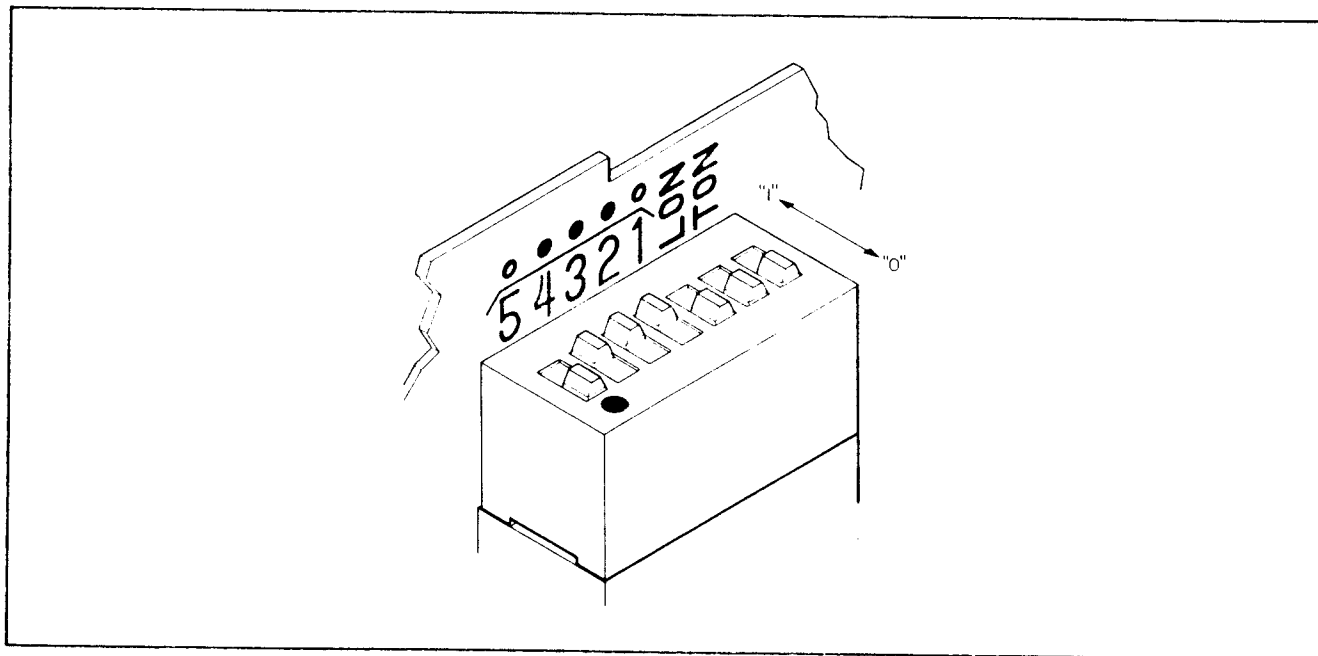

Figure 2-2. The HP-IB Address Switch Shown as Set by the Factory. The Address Shown is 01110 in Binary With Both Talk Only and Listen Only Off
In the Measuring Receiver, the HP-IB talk and listen addresses are selectable by an internal switch (Figure 2-2). The following procedure explains setting of the switches. Refer to Table 2-2 for a listing of the talk and listen addresses. The address is factory set for a Talk address of "N" and a listen address of "." (period). (In binary, this is 01110; in decimal it is 14.) To change the HP-IB address, the top cover of the Measuring Receiver must be removed.
5. Use a pencil to set the switches to the desired HP-IB address and Talk Only (TON) or Listen Only (LON) condition. The switch is illustrated in Figure 2-2. Facing the board, the left hand switch (marked with a "5") is the most significant address bit (A5 in Table 2-2). Setting a switch toward the printed circuit board places it in its "1" position. If the TON and LON switches are both set to "1", the Talk Only setting will override. If the address switches and the TON switch are all set to "1", the Measuring Receiver will output one byte (the status byte) each measurement cycle. (Setting all switches to "1" defeats HP-IB operation.)